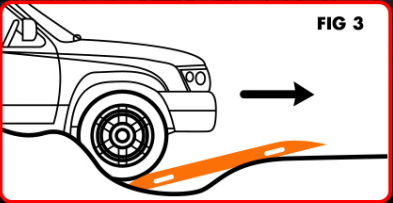

FIG 3
Once positioned slowly drive forward without spinning the wheels. If the tire tread does not grip the board, stop and reposition. **DO NOT SPIN YOUR WHEELS!** Spinning will damage the traction boards and not help in the vehicle recovery. (FIG 3)
3. Step 3: Drive Forward (FIG 3)